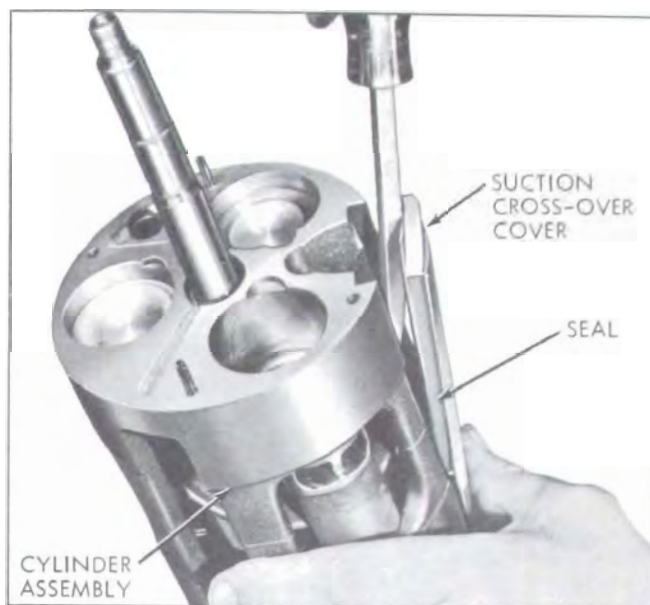

Figure 11-62—Removing Suction Crossover Cover
1. Remove suction crossover cover as shown in Figure 11-62 and discard seal on cover.